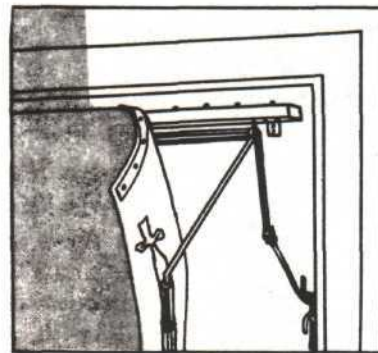

Figure 4. Shade installation.
16) Draw all the cords through the larger screw eye on the end, with each the proper length to raise the shade evenly. Extend one of the cords down 5 inches (12.7 cm) past the bottom of the shade. The other three cords should extend 4 inches (10.2 cm) beyond the large end screw eye. Hand sew all cords together about 2 inches (5 cm) beyond the corner screw eye (Figure 4).